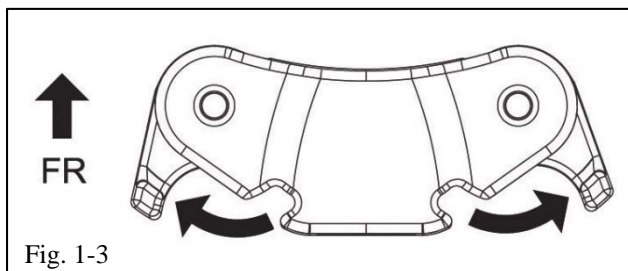

Fig. 1-3
- (e) Sitting in the back seat and looking from the top down, open both arms on the Combo Hook Dock (Fig. 1-3).